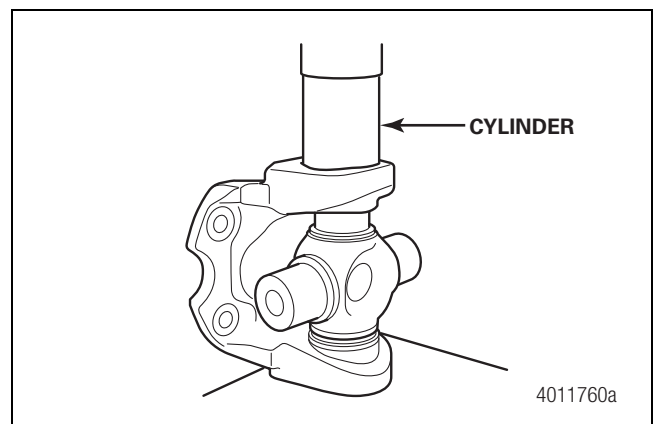

Figure 4.68
9. Install the cylinder on the end and press DOWN until there is snap ring clearance. Apply only the amount of pressure needed to push the bearing down. Excess pressure may cause damage to the snap ring installed on the other end. Figure 4.68.